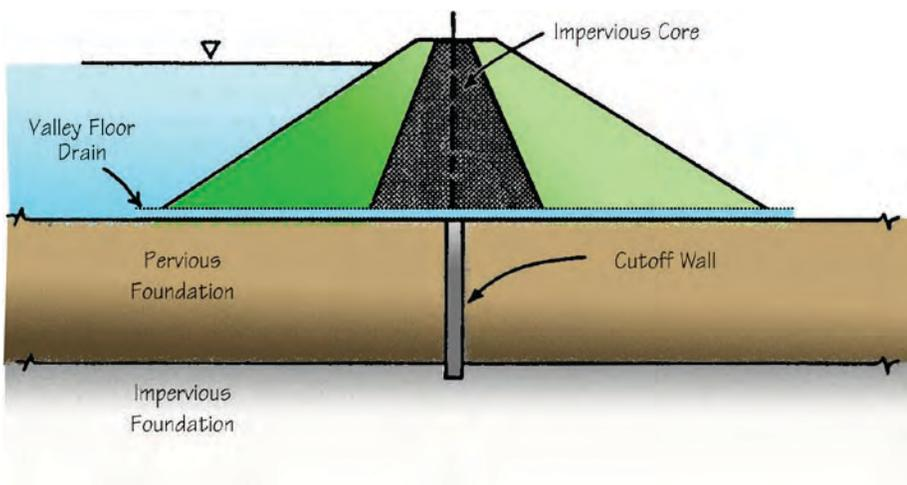

Figure 2: Typical cross section of a dam
“zoned.” A homogeneous embankment is composed of the same material throughout, while a zoned embankment uses dissimilar materials, such as rock and clay, in different parts of a dam as shown in Figure 2.
**The Foundation** is the material upon which a dam is built (Figure 2). This material must have the strength to support the embankment and reservoir behind it safely. Seepage through the foundation must be controlled in such a manner that the embankment will be stable under the
**A Valley Floor Drain** (Figure 2) is a water discharge point placed at the lowest elevation in the pool to empty the lake if necessary. The valley floor drain is generally a pipe with a valve, which may be operated as needed. All dams should have the ability to control the level of the lake. Lake levels are changed for a variety of reasons, such as killing weeds and mosquitoes, making repairs to the dam, or even draining the lake to avoid dam failure.